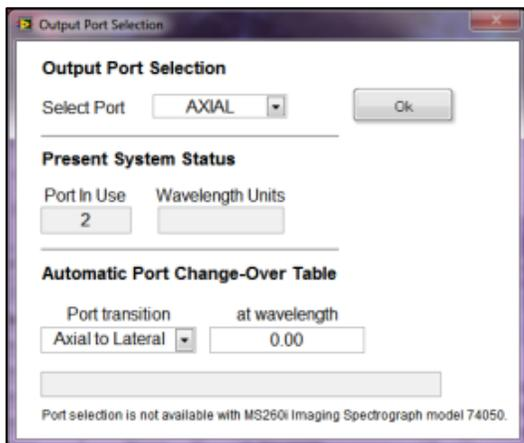
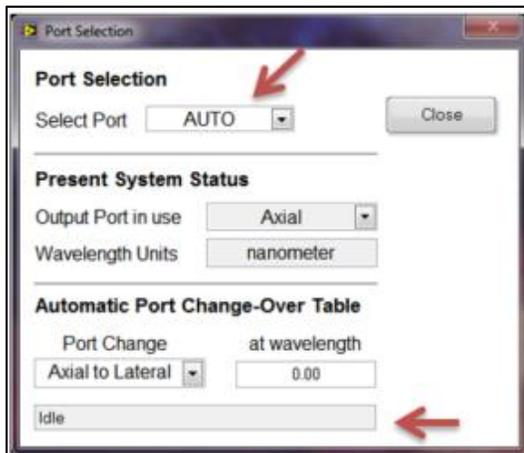

Figure 103: Selecting a Specific Output Port.
Figure 104: Automatic Port Selection.
Dual output port selection is an optional feature for the Cornerstone 260(B) monochromator and MS260i spectrograph. To access this control feature, go to the pulldown menu Monochromator → Port (Fig. 103). To select a specific port, choose either Axial or Lateral. If the Cornerstone 260(B) or MS260i is not equipped with a built-in motorized flip mirror to allow port selection to take place, using this feature in TracQ Basic will have no effect. When using the CS130(B) the port selection is disabled because there is only one output port on these models (Fig. 105). To automatically change ports during a scan, select “Auto” instead of a specific port (Fig. 104). Then fill out the automatic changeover wavelength.